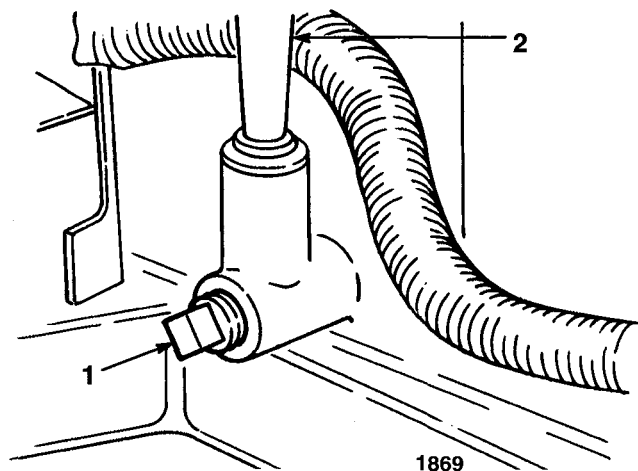

Figure 18
4. Place a pan below the oil dipstick/fill tube and remove the drain plug (Fig. 18).